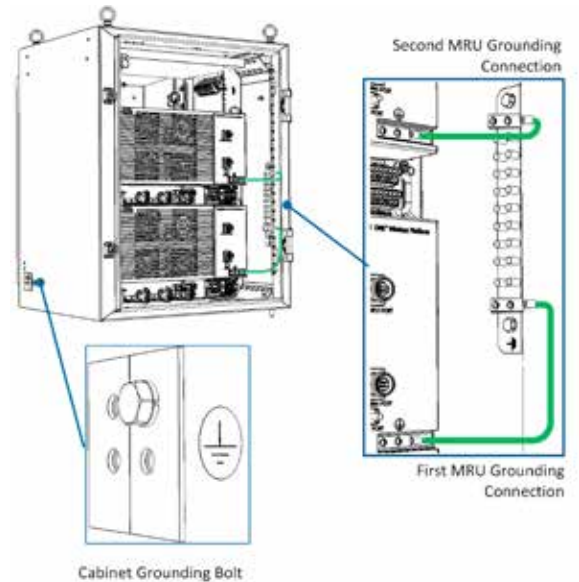

Figure 8. Example of Grounding MRUs to Cabinet
Step 1: Ground cabinet - refer to the manufacturer's installation guide for instructions on cabinet grounding. Figure 8 shows cabinet grounding bolt location (left side panel).
Step 2: For each MRU chassis - using one of the grounding cables provided with the cabinet, ground the MRU via the two-hole, standard barrel grounding lug located on the front panel to one of the cabinet grounding bolts. Refer to Figure 8.